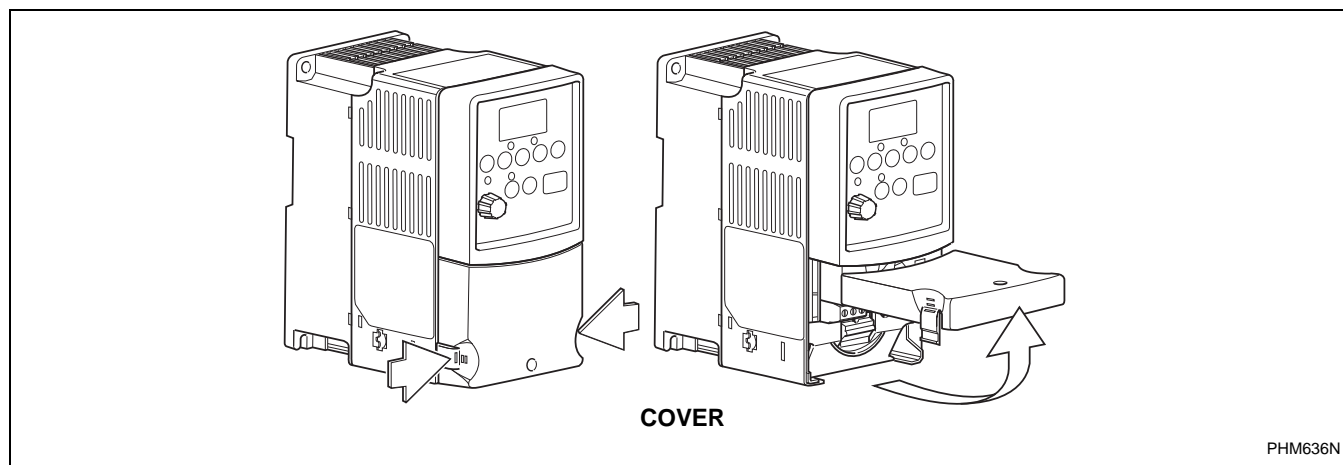

Figure 6
1. Press and hold in the tabs on each side of the cover. Refer to *Figure 6*.